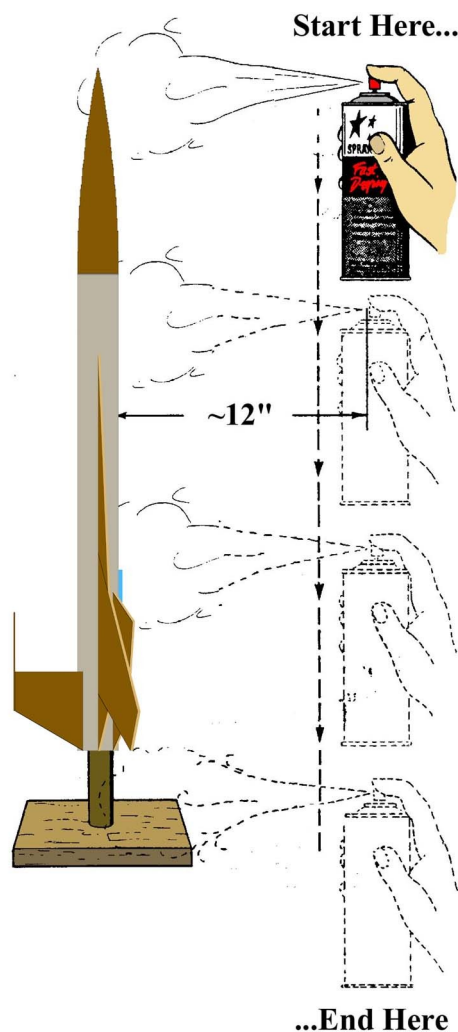

Figure 10
- **Step 18** The illustration in Fig. 10 shows the correct way to spray your model, regardless of the equipment used. Always spray the model from top- to-bottom, never from side-to-side, or bottom-to-top. Use the CD-R spindle as a cheap holding spike. Maintain a distance of about 12" between the tip of the spray and the model. This step applies to primers, paints, and final gloss coats.